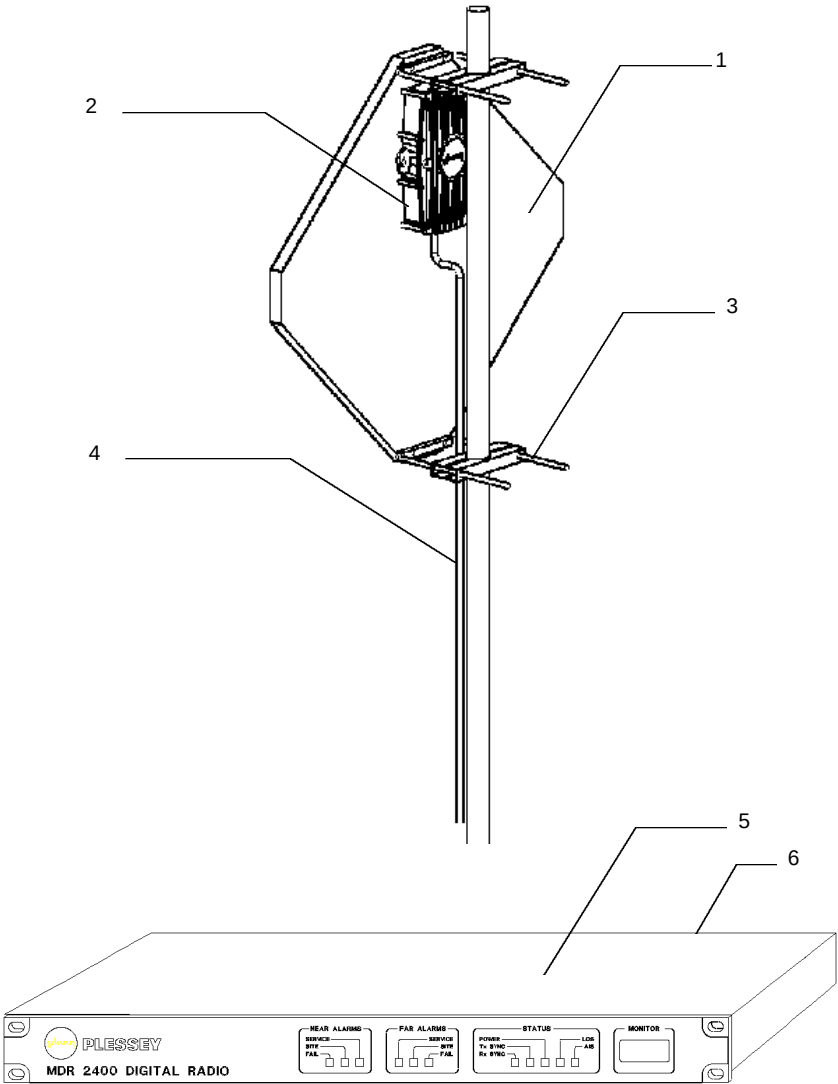

Figure 23. μLink System.
- Item: Indicates the annotation number referenced in the associated parts list illustration in Figure 23.
Figure 23 shows the user replaceable parts and components at the system level. Table 9 shows the actual parts list.